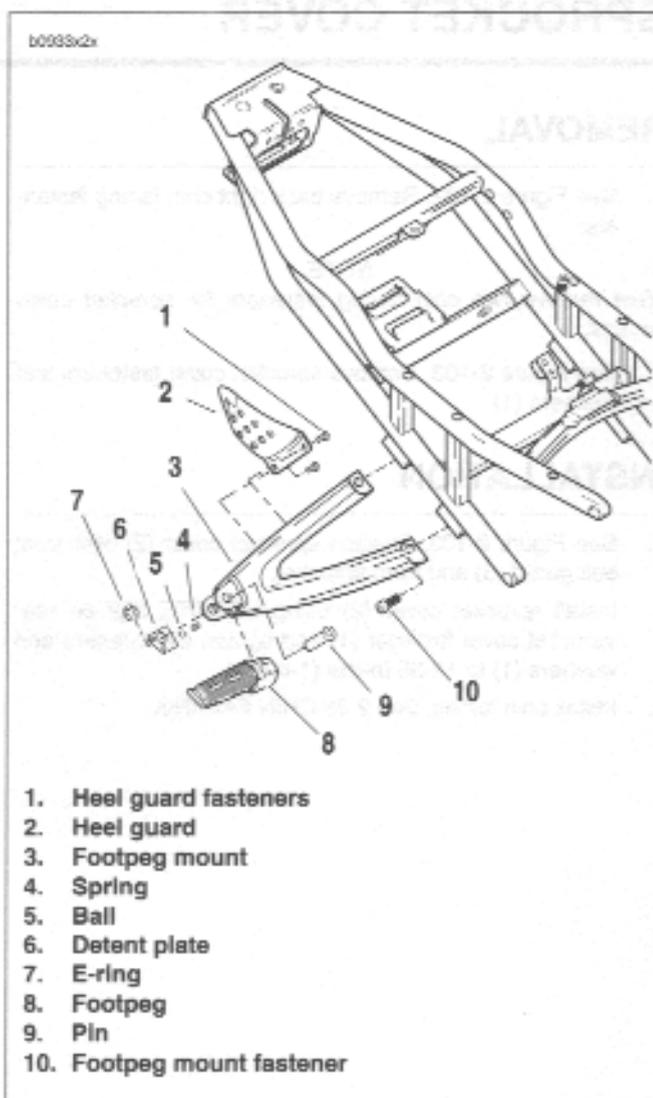

Figure 2-101. Passenger Footpeg, Mount and Heel Guard Assembly
1. See Figure 2-101. Remove e-ring (7).
2. Remove footpeg pin (9).
3. Remove footpeg (8), detent plate (6), ball (5) and spring (4).
1. See Figure 2-101. Remove heel guard fasteners (1).
2. Remove heel guard (2).
1. See Figure 2-101. Remove footpeg mount fasteners (10).
2. Remove footpeg mount (3).
1. See Figure 2-101. Position footpeg (8), detent plate (6), ball (5), and spring (4) on to footpeg mount (3).
2. Install footpeg pin (9).
3. Install e-ring (7).
1. See Figure 2-101. Position heel guard (2) onto footpeg mounts (3).
2. Install heel guard (2). Tightening heel guard fasteners to 48-72 **In-lbs** (5-8 Nm).
1. See Figure 2-101. Position footpeg mount (3) onto tail frame.
2. Install footpeg mount (3). Using LOCTITE 272 tighten fasteners (10) to 25-28 **ft-lbs** (34-38 Nm).